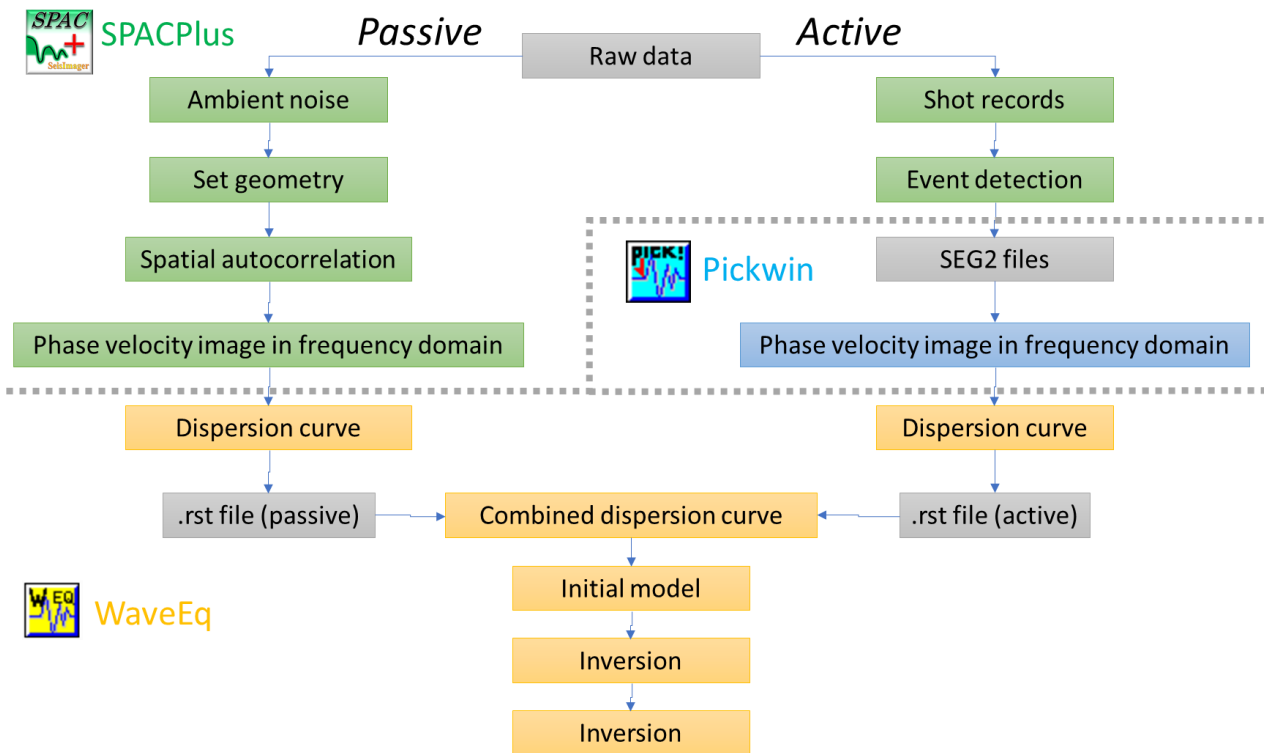

Figure 17.1 Processing flow of passive and active surface wave methods.
1. Nested triangles of 50 m with 10 receivers recording ambient noise (Figure 17.1).